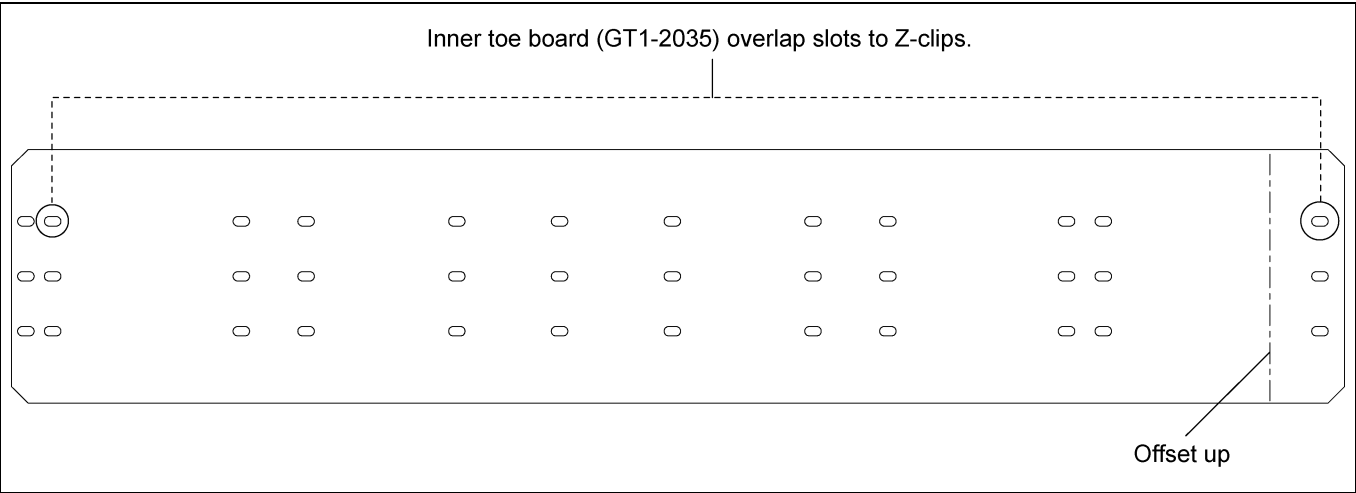

Figure 6L 30' Inner Toe Board (GT1-2035) for Offset and Roof Hatch Catwalks
- 3. Inner toe board is arranged with overlap slots on each side. Install 30' offset and roof hatch inner toe boards (GT1-2035) to corresponding slots as shown in Figure 6L.